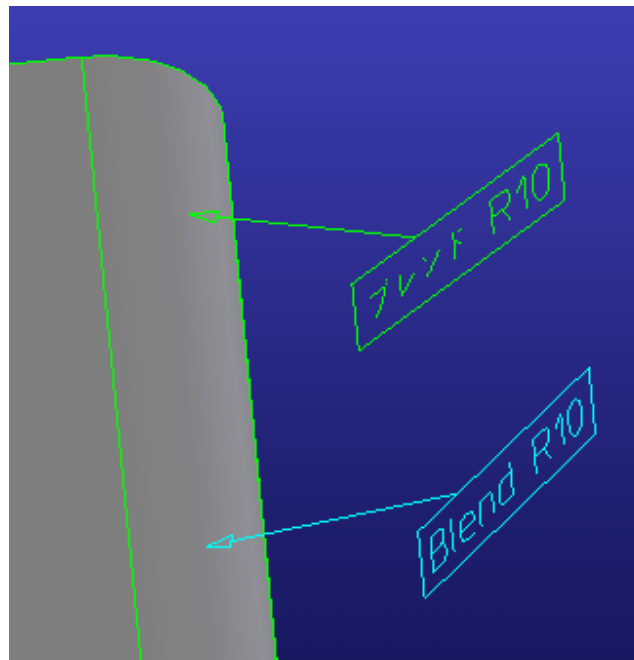

Figure 3: A section of the C1 model with a 3D Annotation
- \X2 encoding: Japanese characters. The recommended example strings are あいうえお, represented in the STEP file by '\X2\3042304430463048304A\X0\'', and the annotation "Blend R10" in Japanese as shown in Figure 3 below, represented in the STEP file by '\X2\30D630EC30F330C9\X0\ R10\'.